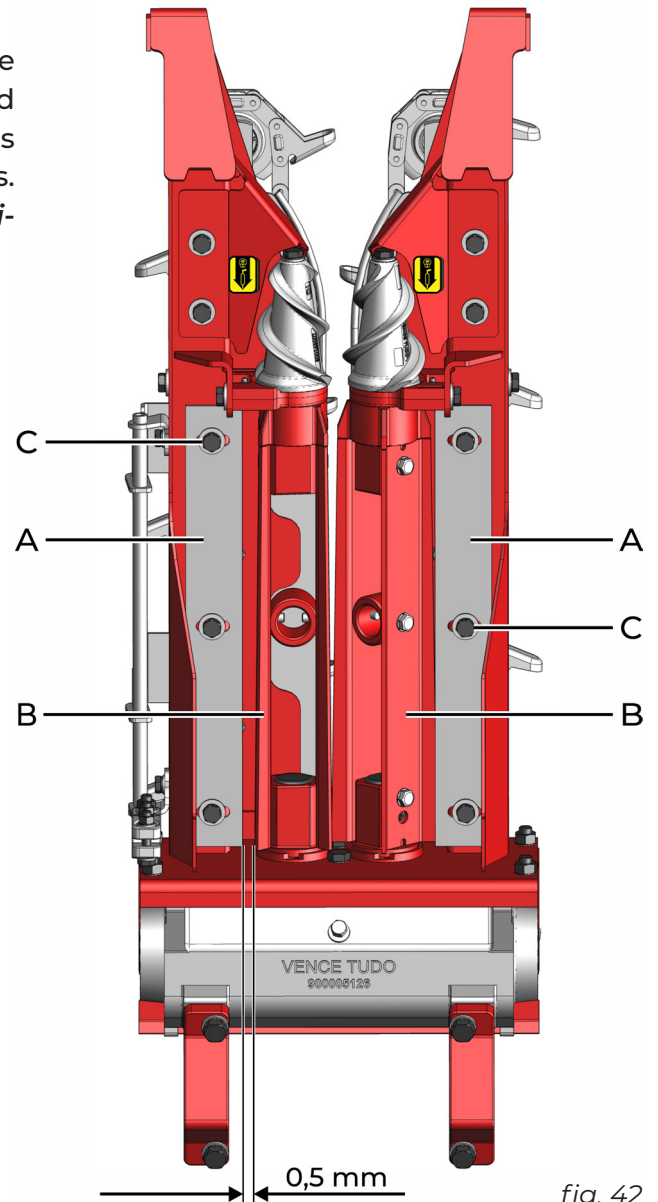

fig. 42
The rollers (B) blades (A) (*fig. 42*) avoid the impurities to enter the stalk rollers. Their sides should be adjusted in a way that ensures they are as close as possible to the rollers, without touching the streaks. To regulate, loosen the screws (C) and adjust at a *minimum distance of 0.5 mm*.